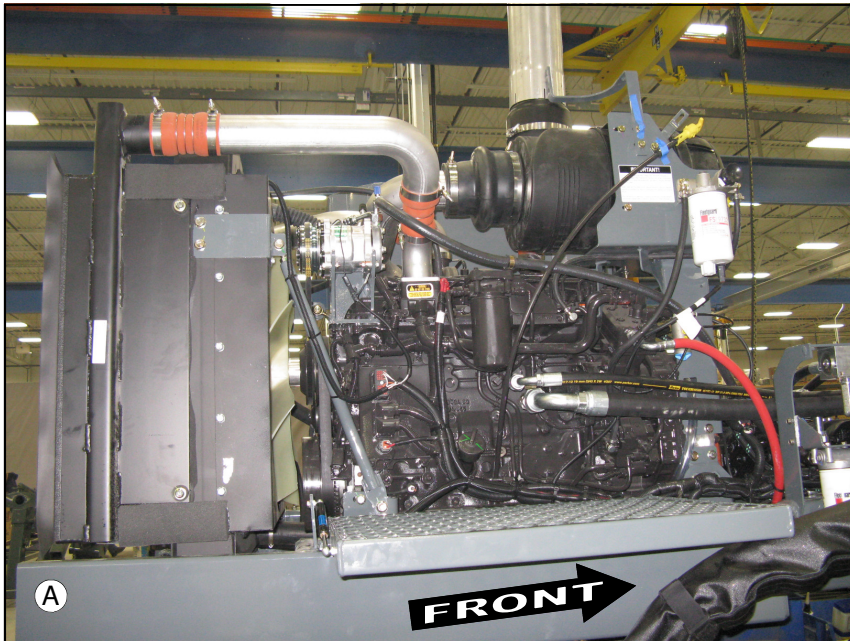
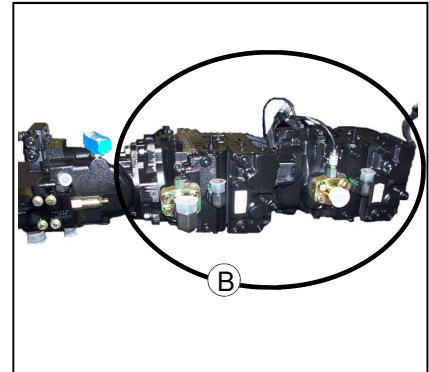

FIG. 35-1
FIG. 35-2
**CUMMINS ENGINE AND TANDEM PUMP**– The STS 10 SPRAYER/DETASSELER comes standard with a 215hp Cummins diesel engine (fig. 35-1). The engine has a direct-mounted Sauer-Danfoss 90 Series tandem hydrostatic pump (fig. 35-2). More information on the operation of the engine is on the next page.